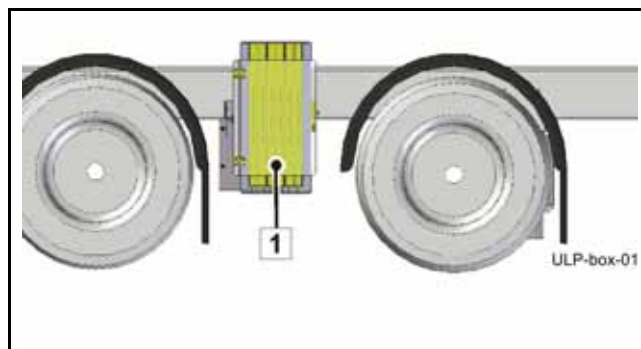
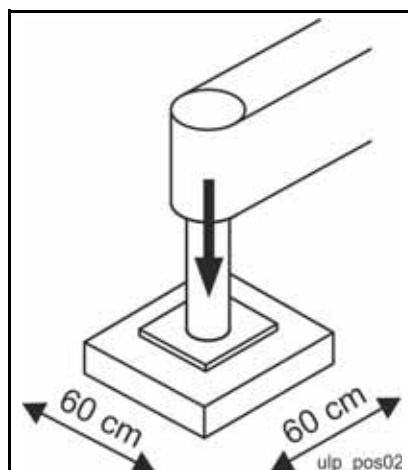

Fig. 132 Storing the support pads
Fig. 133 Enlarging the support surface with support pads
- Always use the standard, load-distributing support pads, which are between the two rear axles by default (**Fig. 132**). This enlarges the support surface (**Fig. 133**).